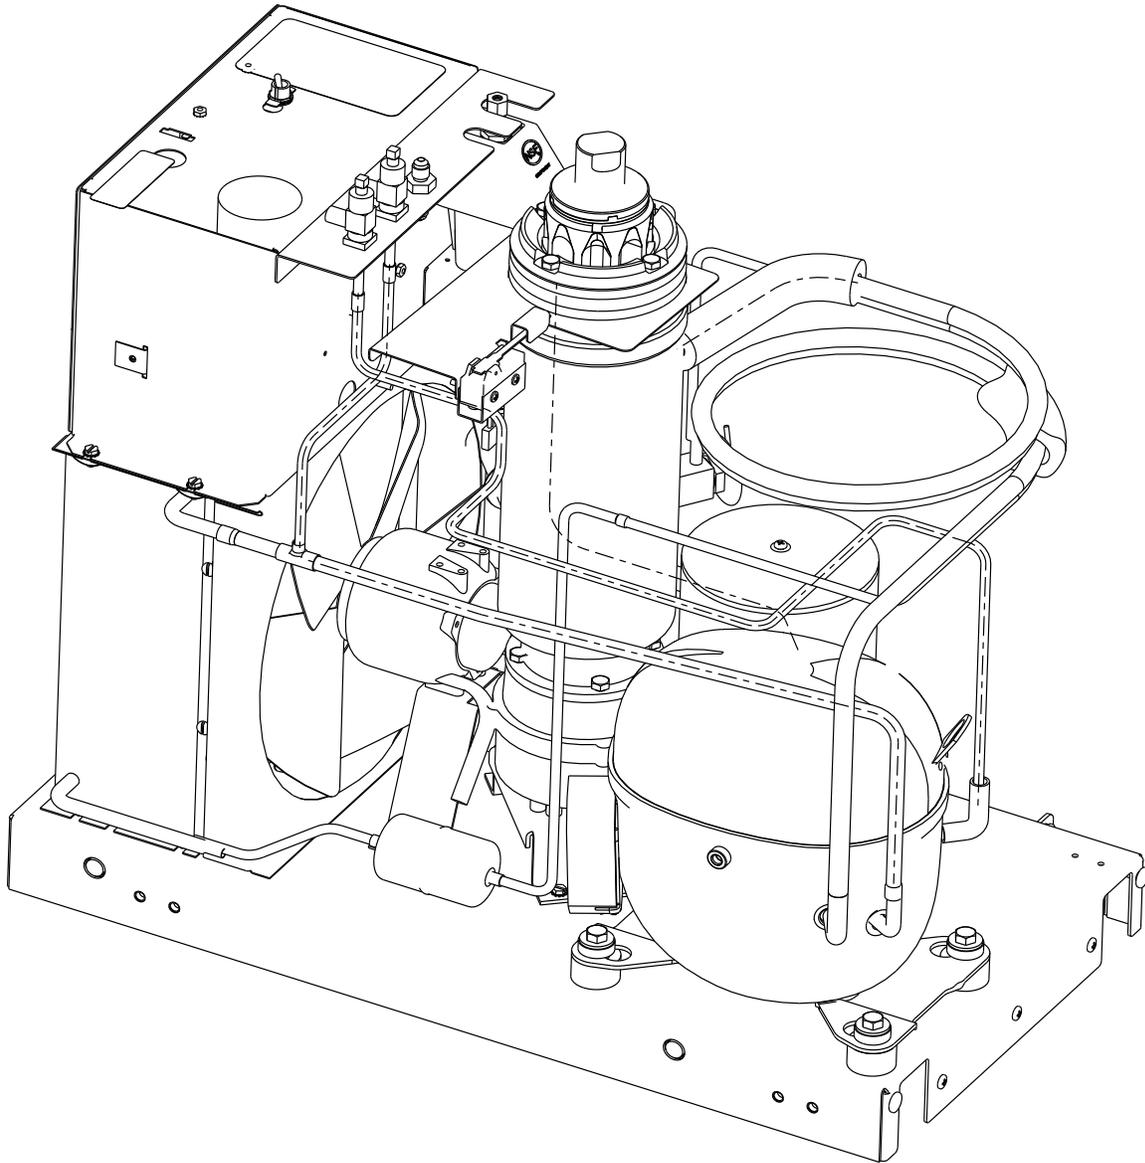

Figure 8. Refrigeration Assembly
12. Braze all joints and ensure all the Tubings are placed as shown in Figure 8.